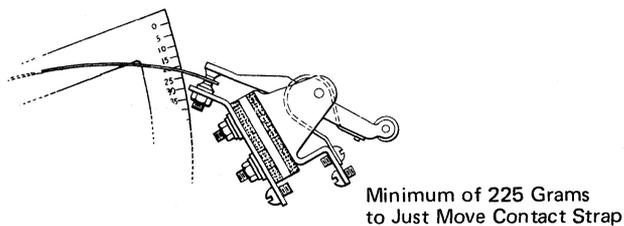

Figure 3-4. Rocker Arm Circuit Breaker—Tension
5. The minimum spring tension to ensure adequate contact pressure for the rocker type contact is 225 grams to just move the contact strap (Figure 3-4). This adjustment can be checked with the roller on either the high dwell or the low dwell. Reforming the blue steel spring may be necessary to obtain this tension. This minimum tension reduces the bounce. To prevent excessive wear, the maximum tension should never exceed 400 grams.